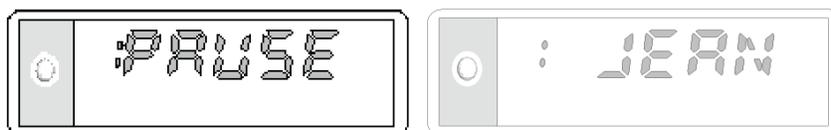

Figure 18 Pause Mode Displays
When the DMC 2000TD is in Pause Mode, it continuously performs the operations described in 1.9.5. The display shows the message "PAUSE" or a user selectable display 6 characters or less (see Figure 18). In the event of a simulated fault, initiated from the SCC, additional alternating messages are displayed every two (2) seconds for a two (2) second duration (see example below).